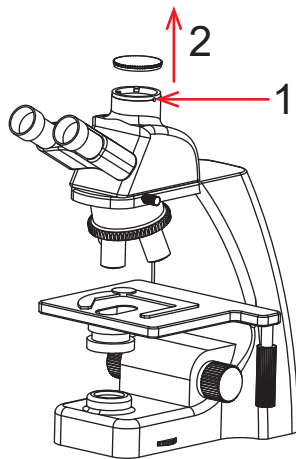

Figure 15
- (1) Remove the dust cover of microscope dovetail slot or standard C -mount, as shown in Figure 15.